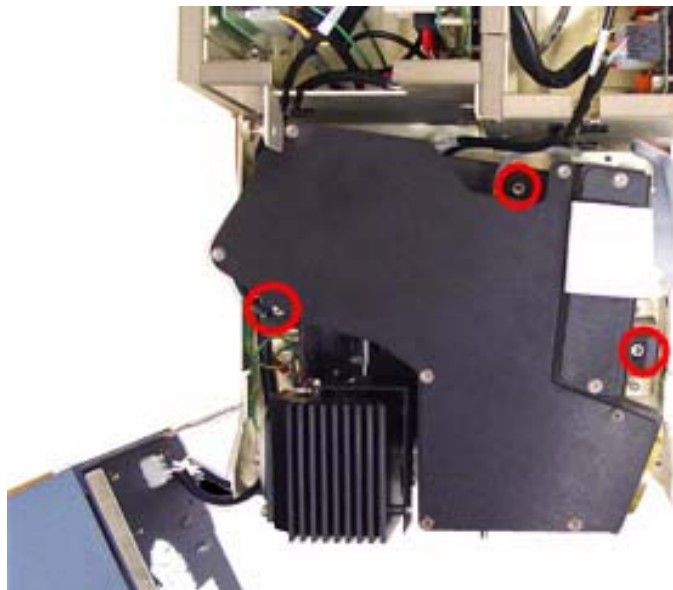

Figure 7 - Location of Optics Bench Screws
15. Remove the three long T20 Torx screws securing the optics bench to the chassis (Figure 7).